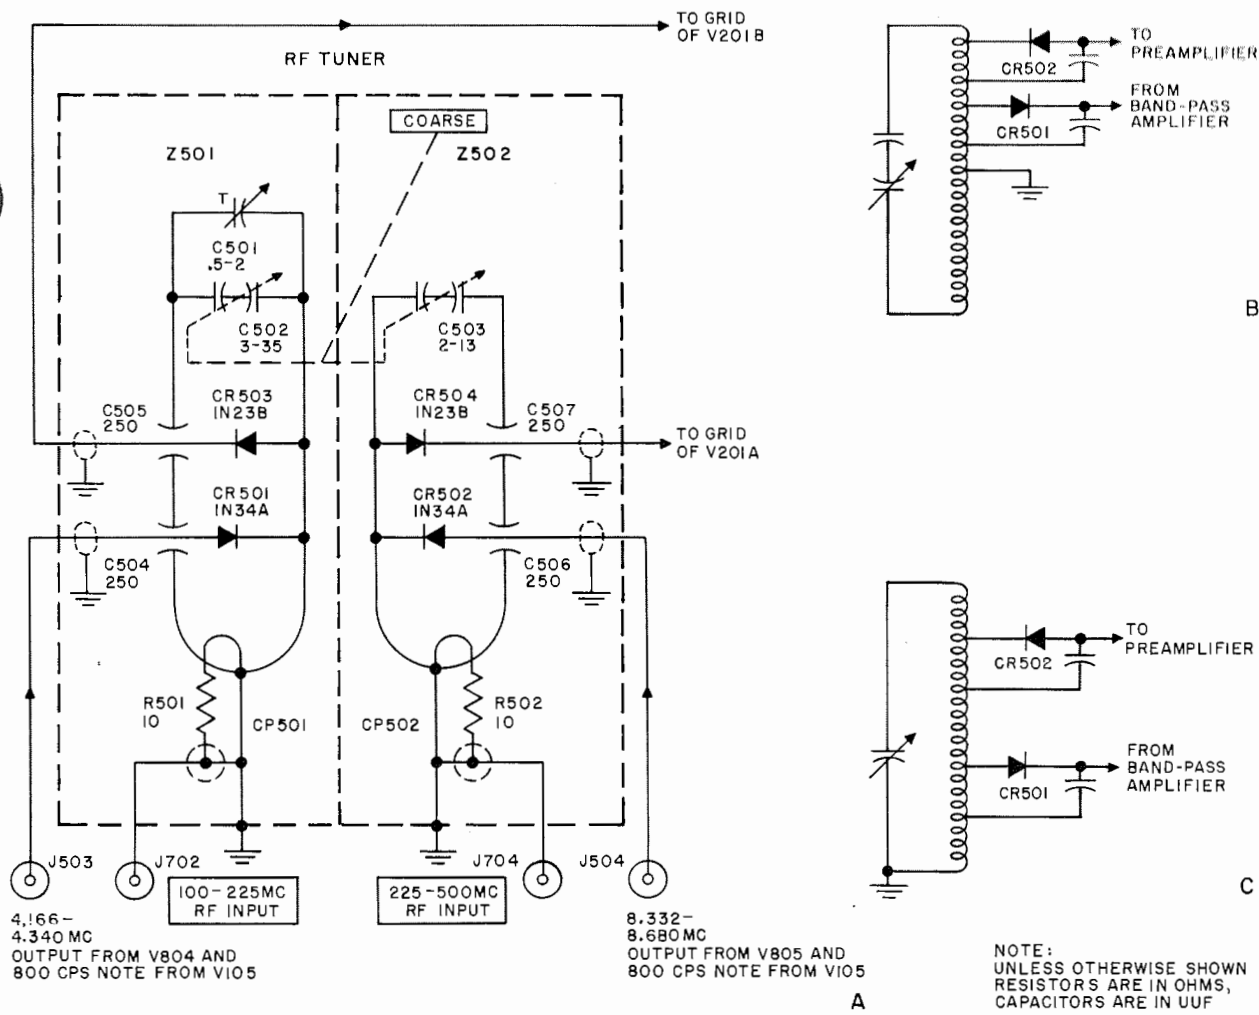

Figure 23. Rf tuner, simplified schematic diagram.
(fig. 23)
a. Tuning network Z501 is a parallel-resonant circuit that consists of a two-conductor transmission line long enough to make its impedance inductive over the frequency range involved, and a precision capacitor that can be rotated to vary the resonant frequency of the combination. The schematic diagram of the rf tuner is shown in A, figure 23; B, figure 23 shows the equivalent circuit as a double-ended parallel LC circuit and C, figure 23 shows the single-ended equivalent. In C, figure 23, crystal diode CR501 is tapped across a portion of the circuit and is connected to a source of audio-frequency signal and an RC biasing combination. The audio voltage across the diode produces an af variation in its impedance, which is reflected into the tuned circuit to cause an af variation in the amplitude of the unknown rf signal that appears across detector CR502. The detector removes the audio signal and passes it to the audio amplifier from which it is available for headphones and TUNING METER. As the capacitor is tuned to a point where it forms a parallel-resonant circuit at the unknown frequency, an audio tone is heard in the headphones or shown on the TUNING METER.
b. When the FUNCTION SWITCH is in the COARSE position as shown in A, figure 23, an 800-cycle audio note from V105 is applied to CR501 in the actual circuit. The unknown signal that is injected into the circuit through the probe is modulated by the audio noise. Crystal diode CR503 detects the audio signal, which is applied to the preamplifier through C505.